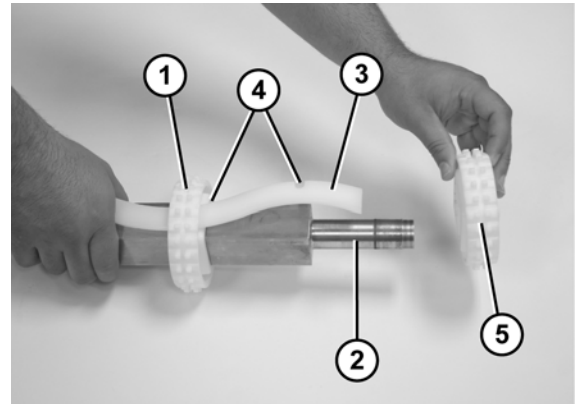
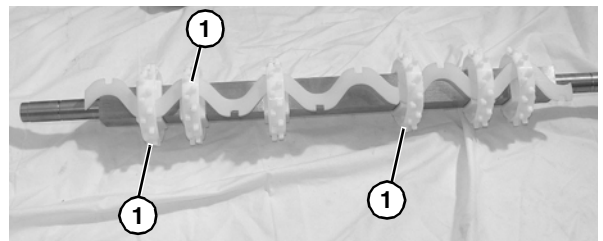

Figure 68
Figure 69
1. Slide the first sprocket (Figure 68, item 1) onto the drive spindle (Figure 68, item 2).
2. Insert the sprocket alignment bar (Figure 68, item 3) into the first sprocket and align the sprocket with the notch (Figure 68, item 4) in the sprocket alignment bar.
3. Slide the remaining sprockets (Figure 68, item 5) onto drive spindle and align each sprocket with the notches (Figure 68, item 4) in the sprocket alignment bar. Be sure that at least three sprockets (Figure 69, item 1) are positioned such that they are on alternate opposing locations on the alignment bar.